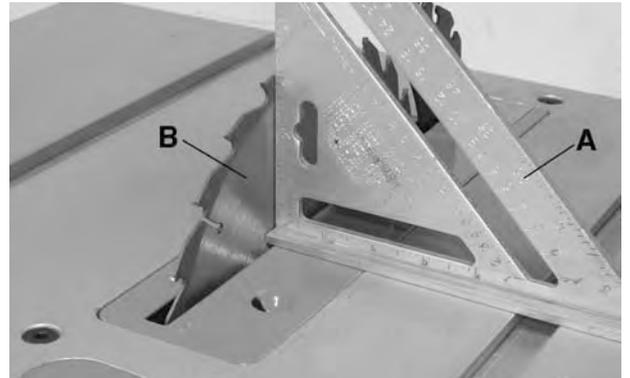

FIGURE 21
If the blade is at a 90° angle and the bevel indicator (A) Fig.21 does not indicate 0° on the scale, an adjustment can be made;
1. Place a combination square (A) Fig.21 on the table and up against the flat portion of the blade (B).